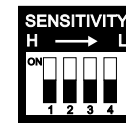

Figure 2
1. Set sensitivity to be OFF (Figure 2).